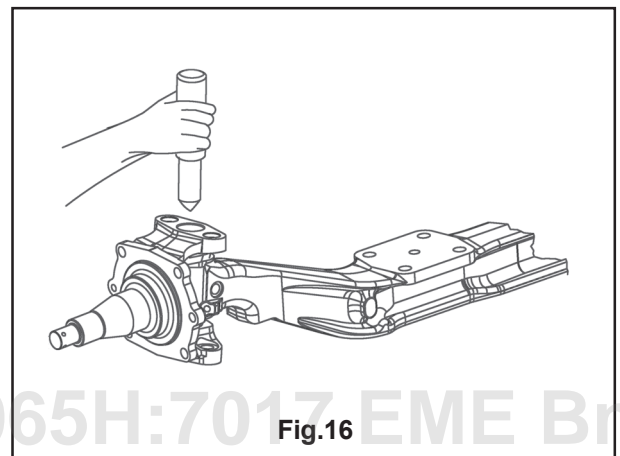

**Fig.14**
**To Reassemble and adjust end float (see fig. 14 & 15)**
9. Check end float and bring it to recommended value by adding or removing shims. **(see fig. 14)**